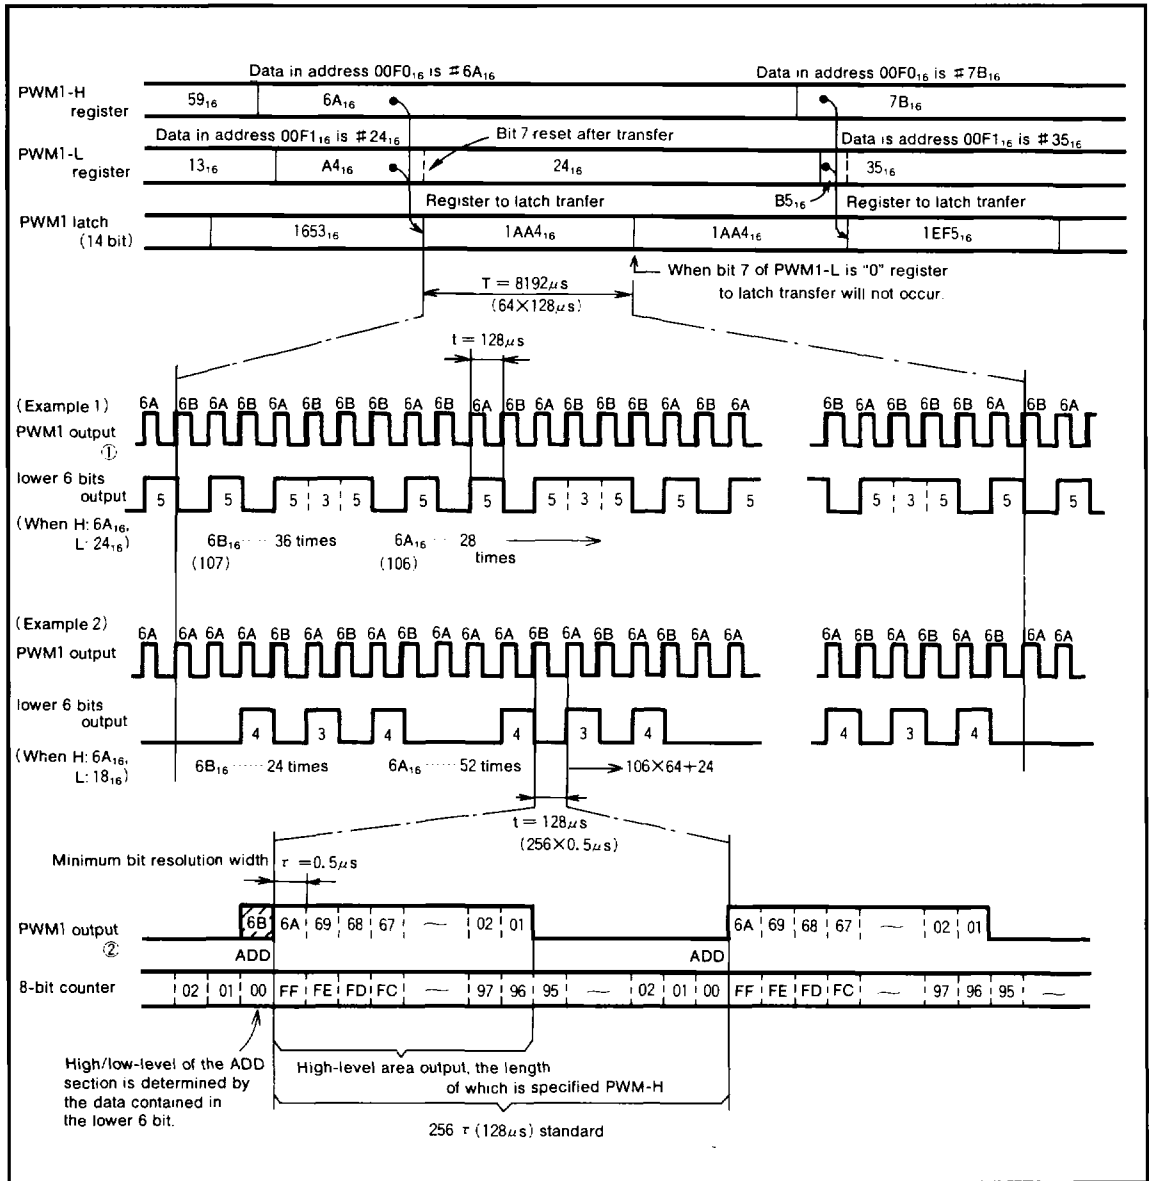

Fig.12 14-bit PWM timing diagram (M50957-XXXSP)
A high-level area within a length N times τ is output every short area of $t = 256 \tau = 128\mu\text{s}$ as determined by data N of the higher 8 bits. (Refer to PWM output ② in the lower part of Figure 12 and 13.)